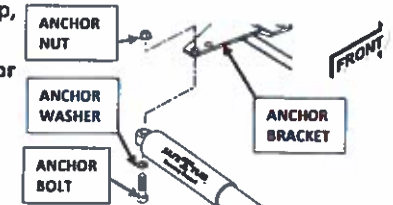

FIGURE 4. SAFE T PLUS INSTALL TO ANCHOR BRACKET
- With Anchor Bolt threads facing up, loosely install large end of SAFE T PLUS® unit to the bottom of Anchor Bracket with Anchor Bolt, Anchor Washer, and Anchor Nut (Figure 4).
- Grip head of Anchor Nut with 1-1/8-inch open ended wrench. Using a torque wrench with a 1-1/8-inch socket, torque Anchor Bolt to Anchor Bracket to 120-130 foot pounds (Figure 4).